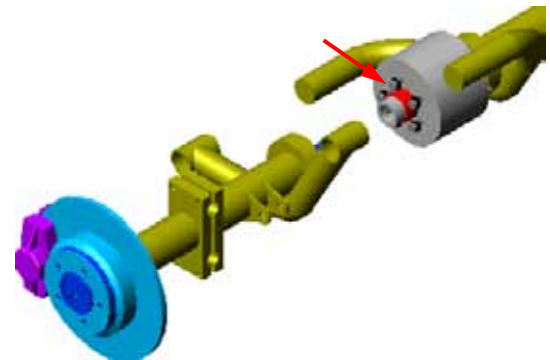

Figure 24
- Separate the left side Axle Housing from the right, leaving the differential attached to the right side assembly. Figure 24
- 2000 - 2003 Models: Install Sprocket Adapter to differential. Figure 24